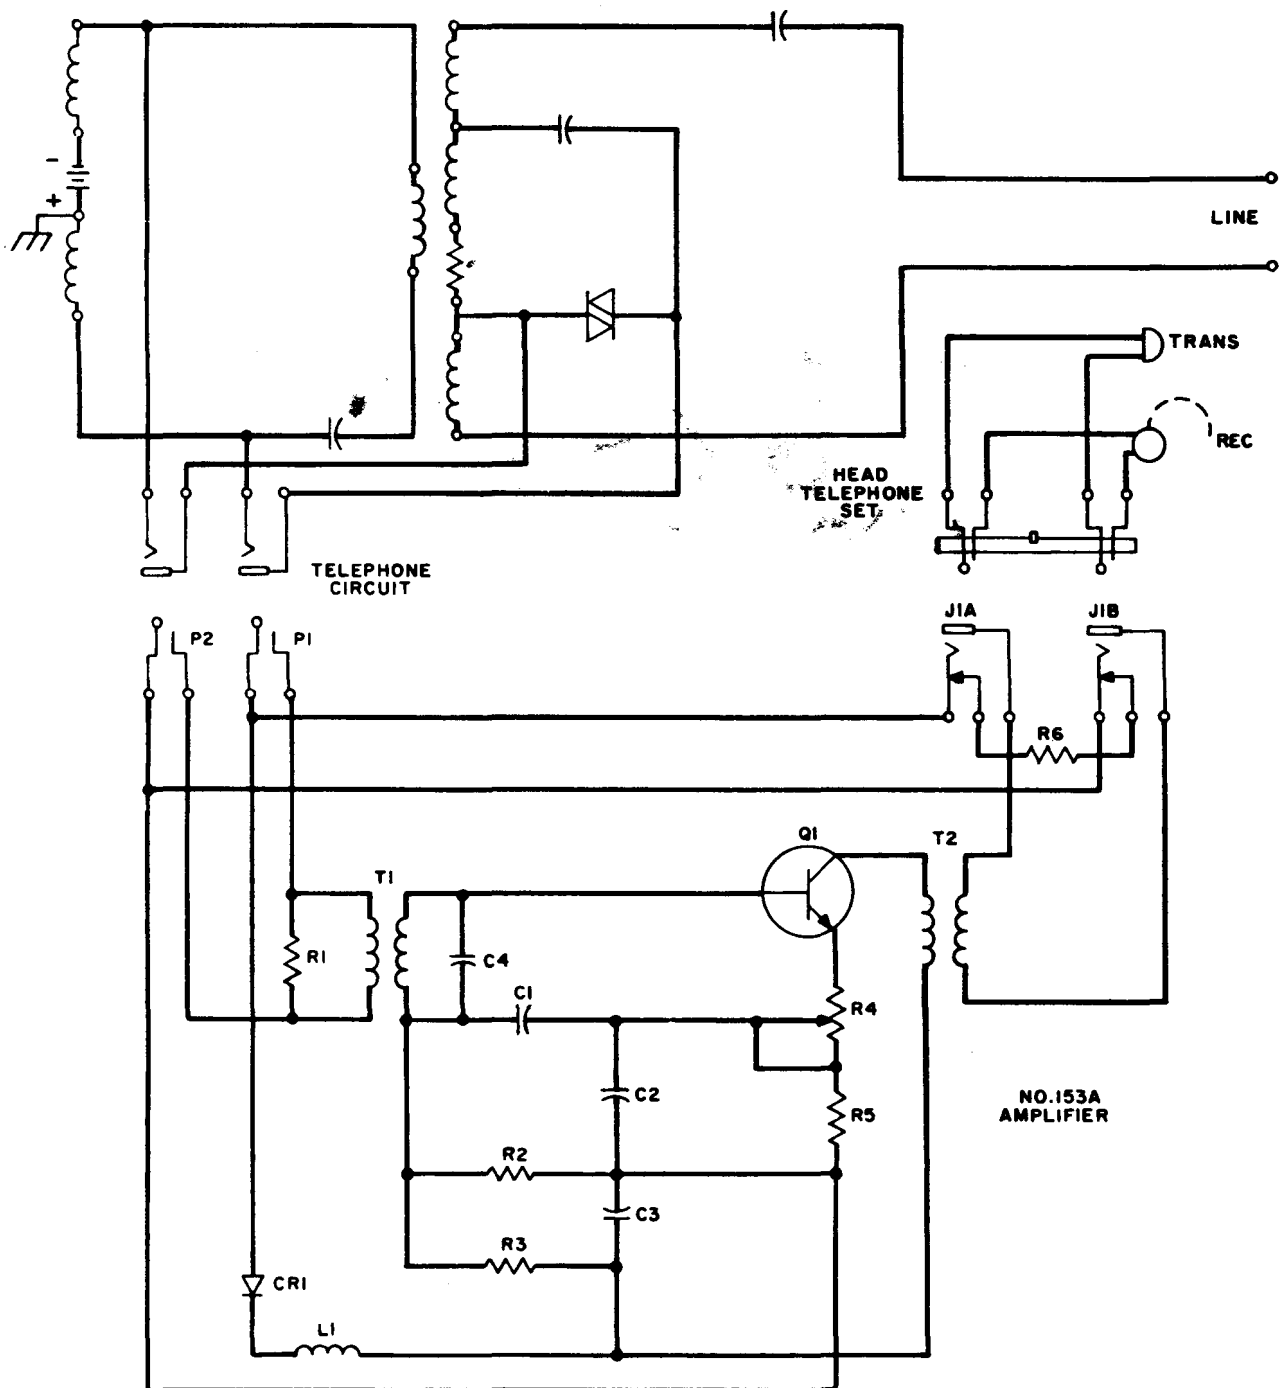

Fig. 4 – Schematic of Amplifier in Normal Telephone Circuit
**3.01** In normal use the transmitter of the head telephone set is in parallel with the amplifier power leads and acts as a shunt to limit the battery supply to approximately 5 volts as shown in Fig. 4. To prevent damage to the transistor due to voltage overload, when the head telephone set is removed from the amplifier jacks, a 50-ohm shunt is bridged across the tips of the jacks. The insertion of this amplifier entails a loss of no more than 1db in the transmitting circuit.